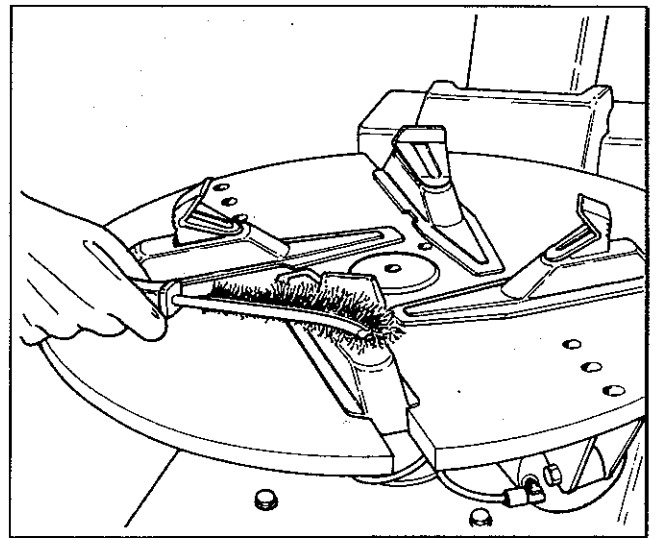

Fig.31
C. Clean every week the teeth of the clamps with a wire brush, check the plastic rim protector and replace it if worn (Fig.31).